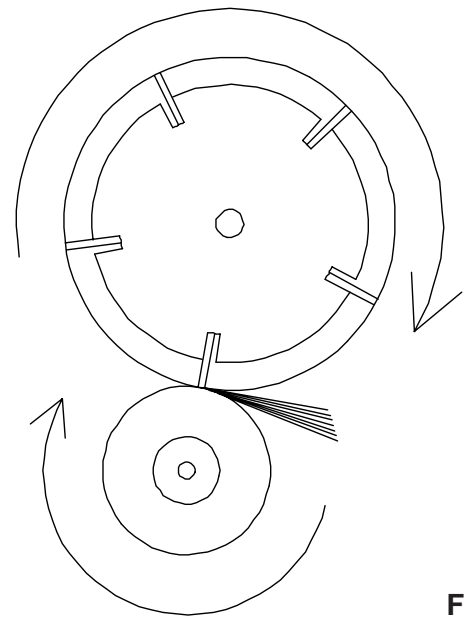

FIG. 30
Turn on the Grinding Wheel Motor and the Spin Drive Motor. Set the Spin speed at approximately 210 rpm for 10" (254 mm) reels and 400 rpm for 5" (127 MM) reels. (Refer to Spin Drive Speed Chart). Make sure spin rotation is the same as the grinding wheel - clockwise (CW) looking from right end. See FIG. 30.